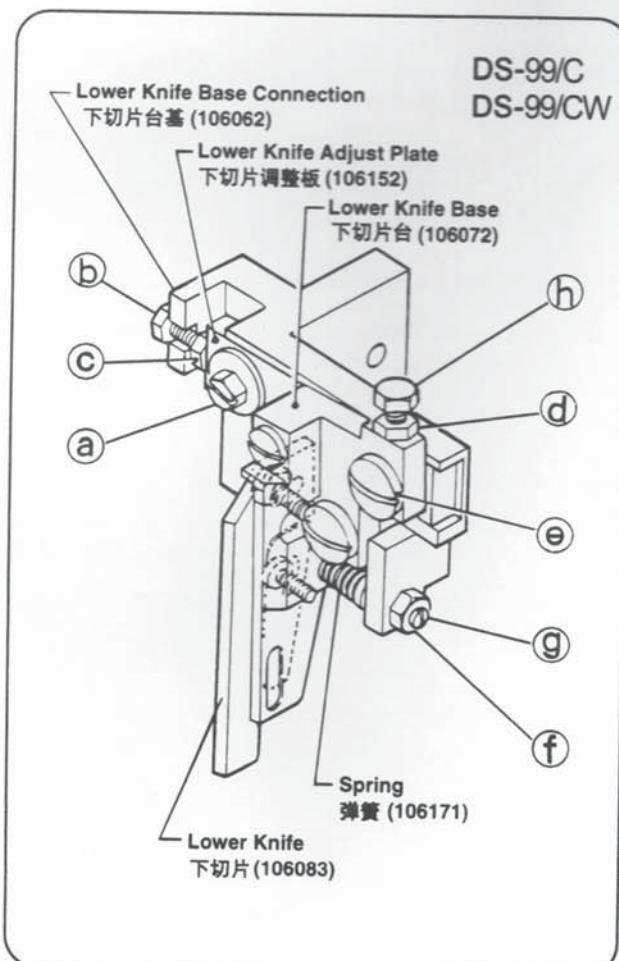

Fig. 13
- To occlude the upper and lower blades, manually move the upper blade. To do so, put off air source. Here, prior to lowering the upper blade, loosen the screws ④, ⑤ and ⑥ and the nuts ⑦ and ⑧ shown in (Fig.13). When both blades are occluded, allow a gap of 0.1 to 0.2mm between the faces of the two blades on the rear side, and tighten the screw ④ and the nut ⑧.
- 用手开动上刀片(#106053), 查看使它和下刀片啮合。需要下降上刀片(如图13所示)时, 放松螺钉④、⑤和⑥, 还要放松螺母⑦和⑧。
- 这调整结束, 将螺钉⑥轻轻地拧进到螺钉④, 然后拧紧螺母⑧。
- c) After the adjustment by steps ④ and ⑤, cut a crepe tape or thread for test. If the front end of the cutter cuts but the rear end does not, there is a gap on the rear side. In this case, loosen the nut ⑦ and loosen the screw ⑧ by 1/8 turn, and cut the thread again for test. If it still does not cut, loosen the screw by another 1/8 turn and repeat this adjustment and test cut until the thread can be cut, and then retighten the nut ⑦. If the rear end of cutter cuts but the front end does not cut, the adjustment by step ④ is insufficient. Then, make re-adjustment of the rear side so that the gap between both the blades becomes 0.1 to 0.2mm. Here, adjust the upper and lower blades so that they are in contact with each other on the front side. If the lower blade tends to turn away without cutting, loosen the nut ⑨ and increase the pressure of the spring by turning the screw ⑩ clockwise. (Fig.13)
- \* 放松螺母⑦先将螺钉⑧转动1/8(22.5度)弯, 再试一次切断纸带或缝线。还不能切时, 再转动螺钉⑧每一次1/8弯, 以达满意切断。确认切断好, 拧紧螺母⑦坚固地固定。
- \* 相反, 后侧能切得快, 但头侧不能切时, ④部调整不完备。再一次转动螺钉⑧调为上切片和下切片之间仅有0.1~0.2mm隙间。刀片切缝线时, 下切片错过缝线不确实切断线, 放松螺母⑨将螺钉顺时针方向转动而弹簧上加压力。(图13)